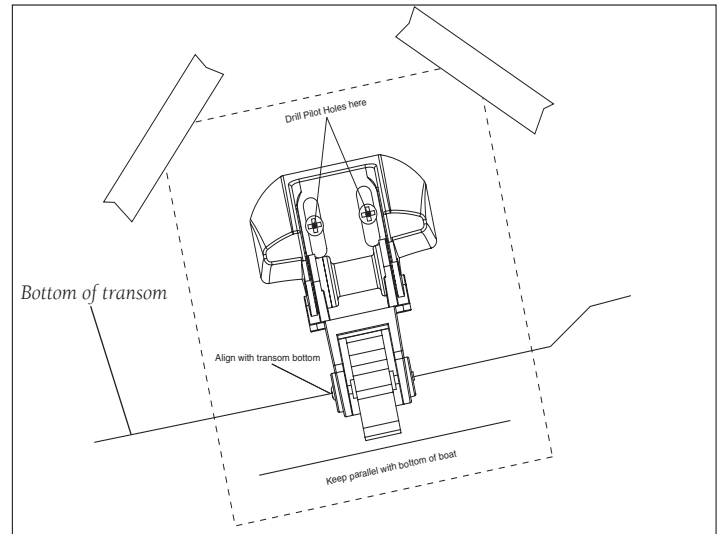

Figure 3
2. Position the template at the selected location, ensuring that the mark on the template is aligned with the bottom of the transom. Tape the template in place (see Figure 3).